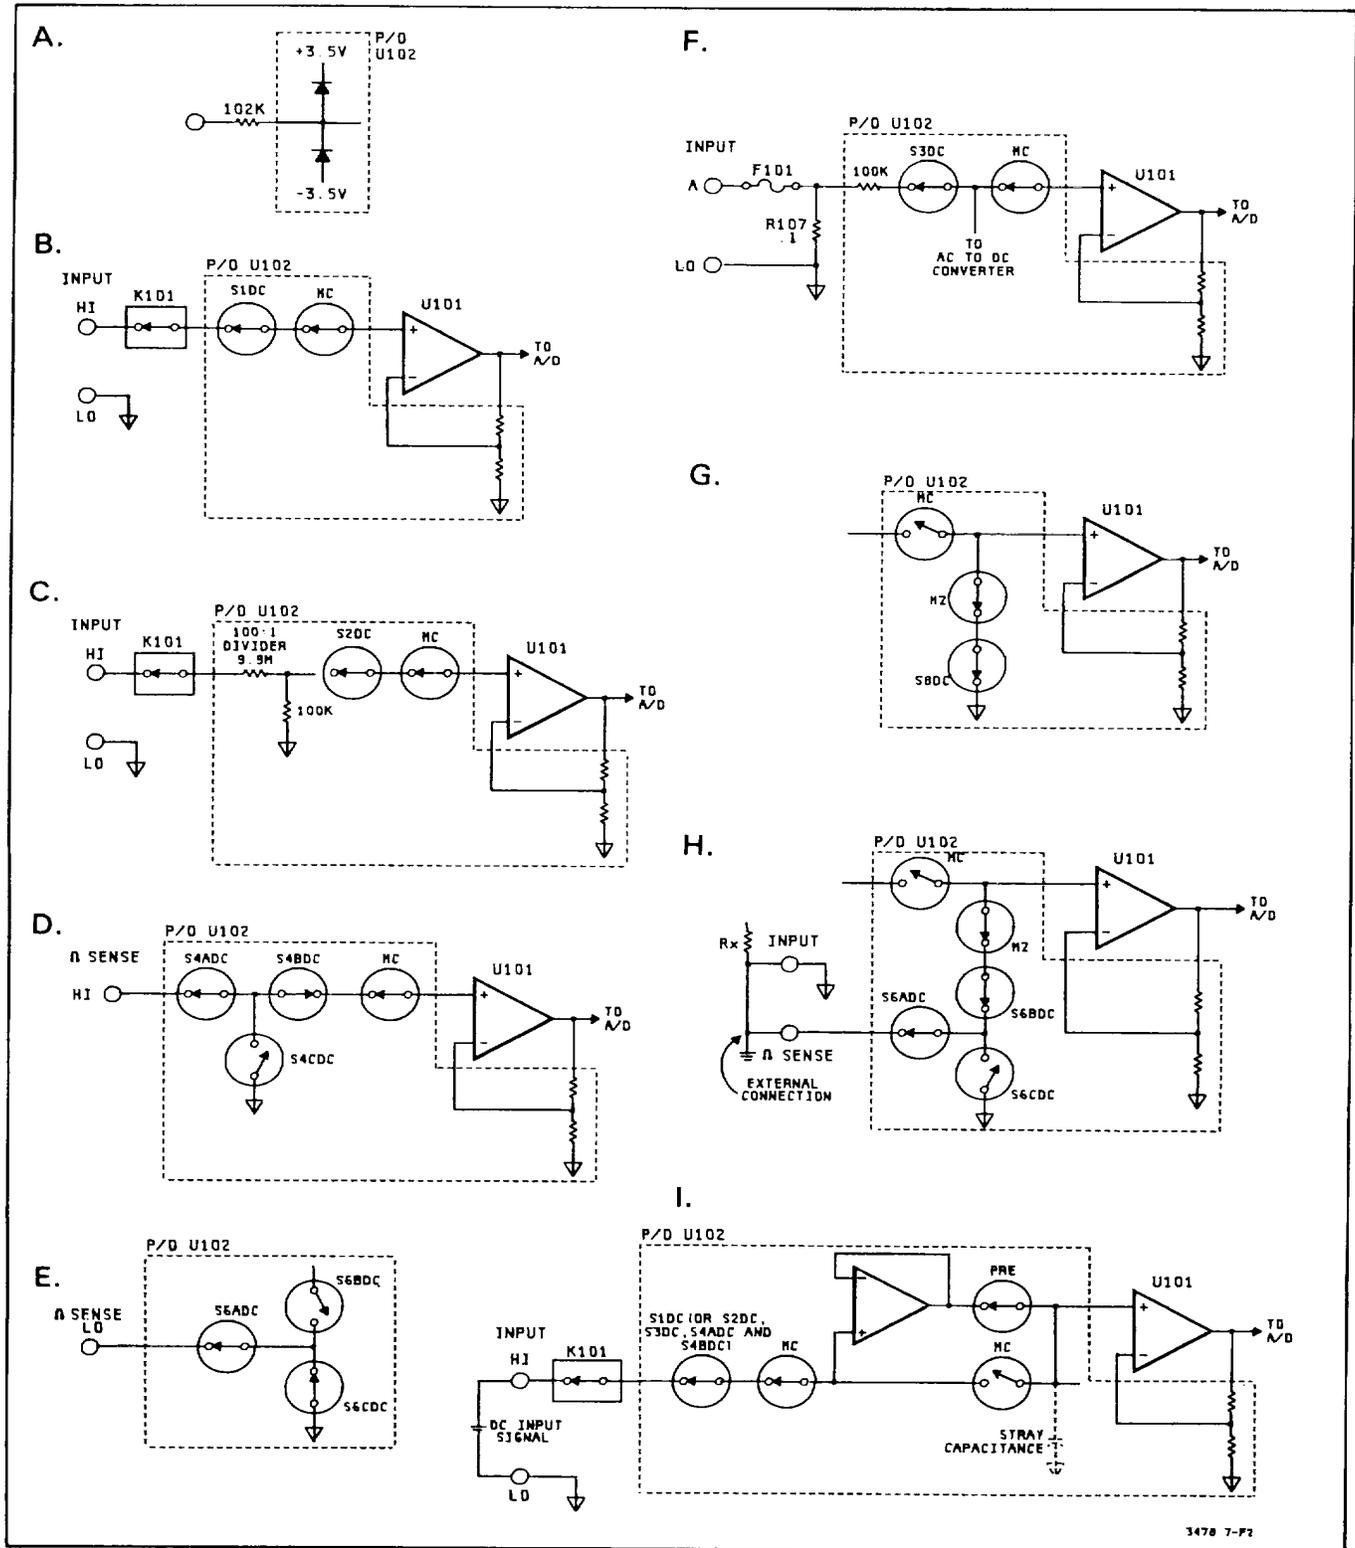

Figure 7-F-2. Simplified Schematic Of The Input Switching Circuitry
b. Low Voltage Protection. This circuit consists of diodes connected to the individual input nodes (part of the HI INPUT, LO INPUT, A INPUT Paths, etc.). The diodes on each node are connected (internally in U 102) to + 3.5V and -3.5V power supplies. If the voltage on a node exceeds either + 4.2V or -4.2V, a diode conducts and keeps the level on the node to the $\pm 4.2V$ levels. The difference between the high voltage at the input terminals and the voltage at the input nodes is dropped across the resistors which are in series with the diodes and input terminals (the low pass filter). Figure 7-F-2A shows a typical protection circuit.
7-F-13. Input Switching. The Input Switching Circuitry consists mostly of Relay and MOSFET switches, with most FET switches located in U102. The purposes of the switches are to provide five signal paths to the Input Amplifier and to connect the amplifier for a zero measurement (done in the Autozero Function; see paragraph 7-F-14). The switches are controlled by circuits in U102 which receive their control information from the A/D Controller. The following explains the various input paths. Refer to Figure 7-F-2 and Schematic 1 for the explanation.
a. Low Voltage Range Input Path (Figure 7-F-2B). The path consists of K101, R103, R104, R10, and SIDC (SIDC is in U102). The purpose of the path is to connect the HI INPUT Terminal (high input voltage) to the DC/Ohms Input Amplifier. The path is used only in the 30mV through 3V dc volts Ranges and all Ohms Ranges.
b. High Voltage Range Input Path (Figure 7-F-2C). The path consists of RI 10, K102, S2DC (in U102), and a 100:1 divider (9.9M ohm and 100K ohm resistors, RD99 and RD98, in U102). The purpose of the path is to attenuate input voltages by a factor of 100 and to connect the attenuated voltage to the DC/Ohms Input Amplifier. The path is used only in the 30V and 300V dc volts Ranges.
c. Ohms High Sense Path (Figure 7-F-2D). This path consists of RI05, R106, and S4ADC and S4BDC (S4ADC and S4BDC are in U102). The path connects the HI OHMS SENSE Terminal (high ohms input) to the DC/Ohms Input Amplifier, only when the 3478A is in the 4-Wire Ohms Function. Switch S4CDC (which is also part of the path) is used to connect the junction of S4ADC and S4BDC to ground. Switch S4CDC is closed in all functions except the 4-Wire Ohms Function and shunts any possible voltage on the S4ADC and S4BDC junction to ground.
d. Ohms Low Sense Path (Figure 7-F-2E). This path consists of RI01, R102, and S6ADC and S6CDC (S6ADC and S6CDC are in U102). The path is used to connect the LO OHMS SENSE Input Terminal (low ohms input) to ground (LO INPUT Terminal), when the 3478A is in the 4-Wire Ohms Function. In the 2-Wire Ohms Function, the low ohms input is the LO INPUT Terminal (which is connected to ground).
e. Current Input Path (Figure 7-F-2F). This path includes R107 and S3DC (in U102). The voltage drop across R107 (which is generated by the current being measured) is connected through S3DC to the DC/Ohms Input Amplifier. This path is used only in the DC Current Function.